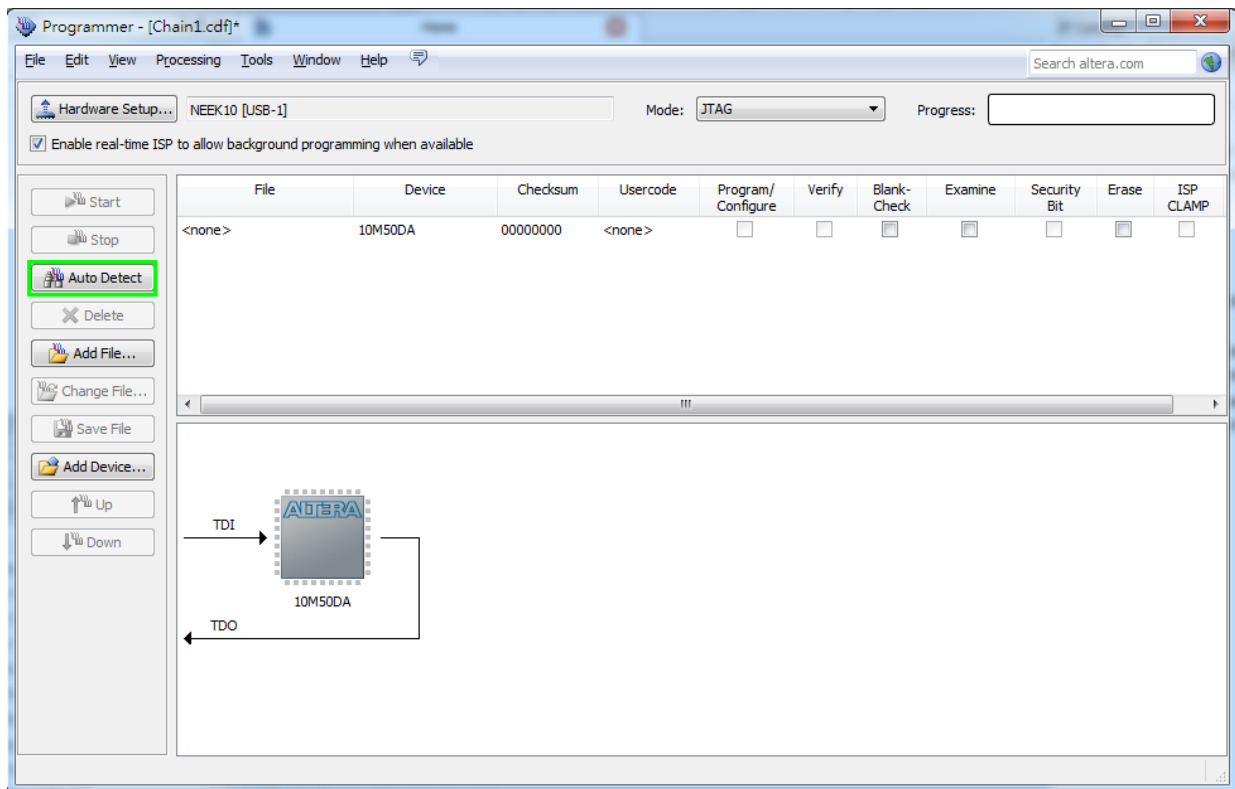

Figure 3-2 Detect FPGA device in JTAG mode
1. Open the Quartus II programmer and click “Auto Detect”, as circled in Figure 3-2